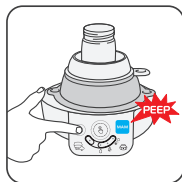

Fig. 7
5.) Press ON  to switch on the device (Fig. 7). The light on the sterilising programme will appear, along with a short beep.